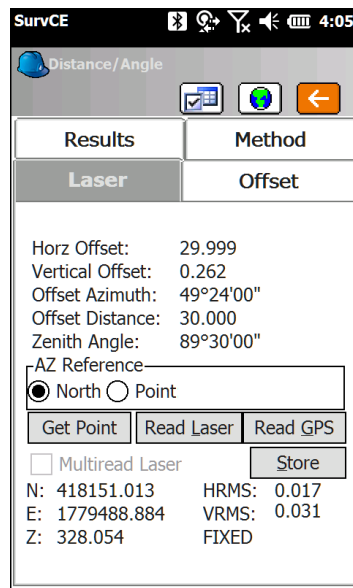

Figure 9
1. The data will populate the fields (Fig.9)